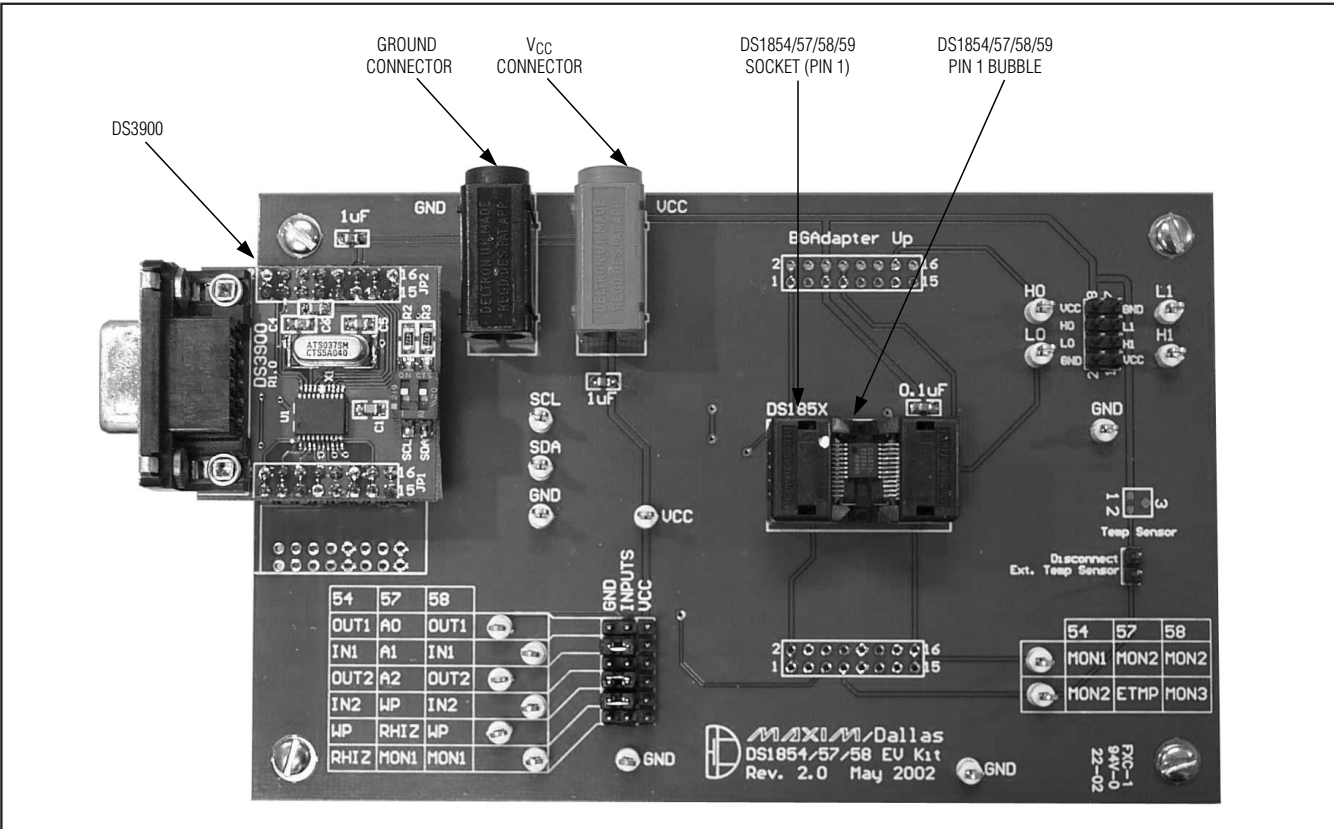

Figure 2. EV Kit Hardware (Rev 2.0)
- 2) Install the DS3900 module on the EV Kit board if it was not pre-installed when the kit was received (Figure 2). Make sure the DS3900's switches are in the on position.
- 4) Choose a device to evaluate and insert it into the socket (top justified). Be sure to match up the pin 1 indicator on the device to the upper left corner of the socket. **Note:** The dot on the corner of the package indicates pin 1; see Figure 2 for the correct orientation of the device in the socket.
- 6) Connect a 3.3V or 5V power supply to the board (Figure 2).